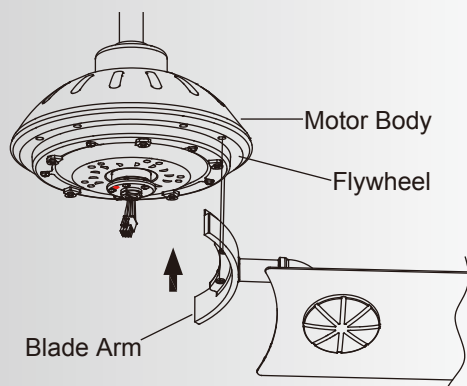

Fig. 17
**Step 2.** Fasten blade assembly to the holes located on the bottom of the flywheel. Tighten the two "pre- installed" motor screws in the blade arm. Repeat steps for the remaining blades assemblies. (Fig. 17)